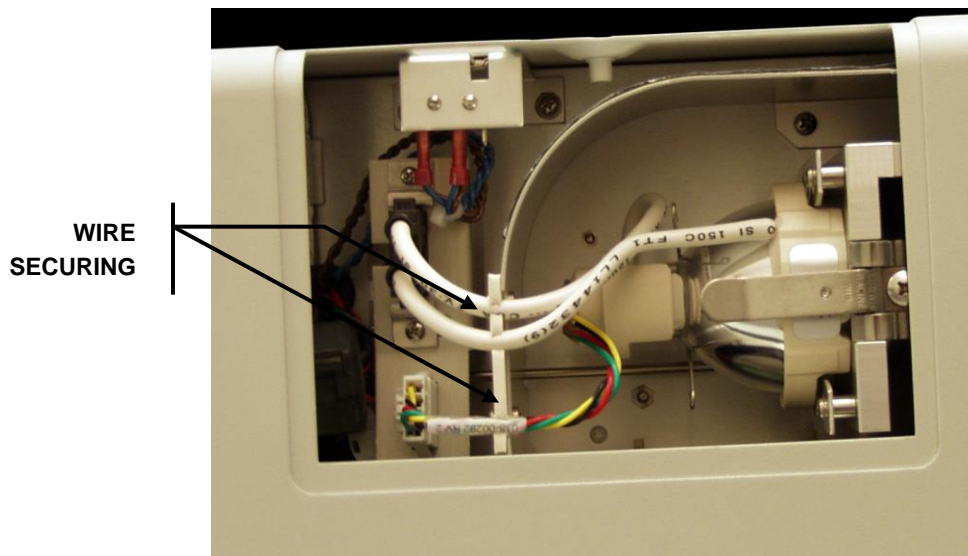

Figure 8 Lamp Wire Orientation
- 4.1.9 Ensure the Intelli-Lamp sensor and the lamp power leads are secured into the appropriate alignment grooves of the lamp housing. Reference Figure 8.